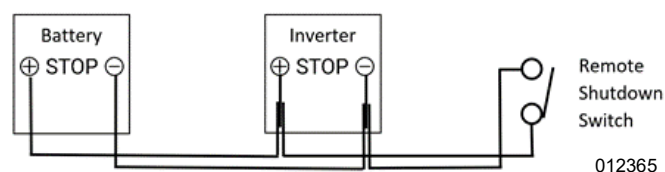

Figure 4-15. Remote Shutdown Switch Parallel Wiring
3. See Figure 4-15. The STOP terminals and remote shutdown switch can be wired in parallel. In this case polarity matters. Wire the "STOP+" of first device to "STOP+" of second device. Wire the "STOP-" of first device to "STOP-" of second device. From either device, run a wire pair from the STOP terminals to the remote shutdown switch.